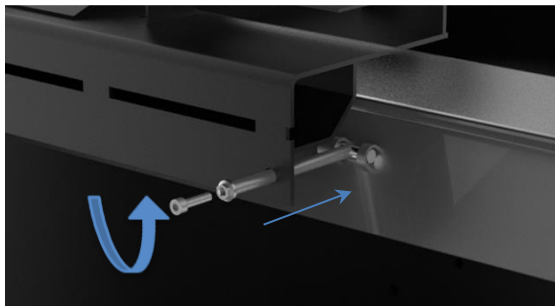

Figure 60 - Smoke flap adjustment
* Note: in the case of an installation with bad air draft, it is possible to adjust the flap stop in order to facilitate the passage of fumes through the chimney neck, Figure 60. This operation must be carried out by a specialized technician.